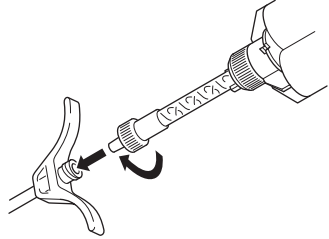

Figure 4 – Connect the Cortoss Mix Tip to the Cement Cannula
- Connect the Cortoss Mix Tip to the cement cannula (figure 4).